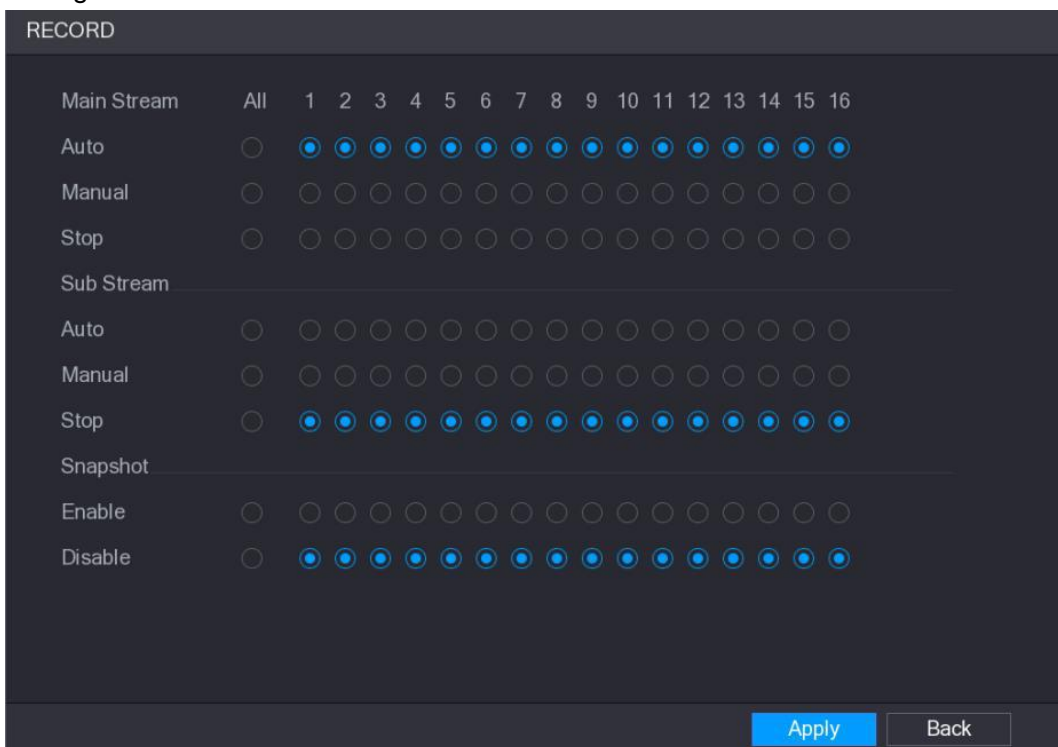

Figure 5-96
Step 1 Right-click on the live view screen, the shortcut menu is displayed. On the shortcut menu, select **Manual > Record Control**. The **RECORD** interface is displayed, see Figure 5-96.